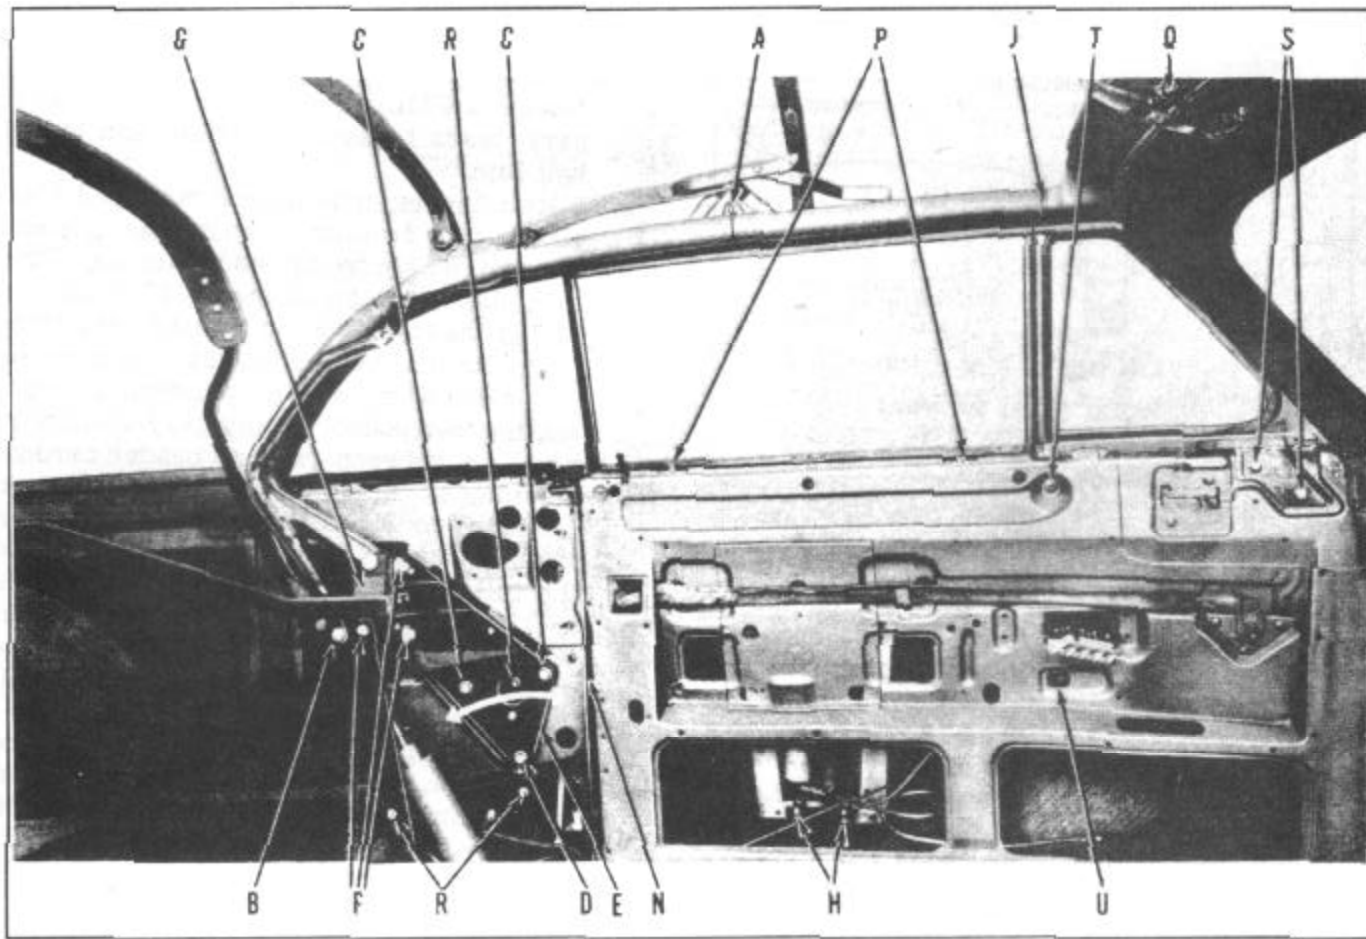

FIGURE 174
3. Back out the side rail adjusting screw at (A), Figures 174 and 175. This screw must not be making contact inside of the rail hinge when starting a major top adjustment.
4. Loosen anchor bolt attaching top balance link to top pivot bracket at (B), Figure 174.
5. Loosen the hex head bolts attaching top pivot bracket support to rear pillar to wheelhouse brace at (C) and (D). Bolt holes at (C) are slotted. Bolt (D) is a pivot bolt for movement of bracket (E) forward or backward in an arc to lengthen or shorten the top assembly in relation to the windshield header. Make
9. The top side rail front corner bracket (J), Figures 174 and 177, is preadjusted at the factory with three bolts set midway in the adjustment slots.
10. The top hold-down clamps (Q), Figures 174 and 178, are attached with a serrated mounting plate (D) to allow suitable spring tension adjustment and top front header sealing.
1. Loosen screws (R), Figure 174, to obtain the proper forward adjustment.
1. Remove two screws (S), Figure 174, attaching the wing cradle to inner panel.
2. Loosen screw (T) attaching center glass channel to upper edge of inner panel and remove screw (U) attaching lower end of center channel to inner panel.
3. To tilt vent wing inward insert a washer or washers between wing cradle and inner panel at the upper wing cradle attachment screw (S). Install and tighten both screws, (To tilt outward, insert washers at lower attaching screws (S).)
4. Tilting the glass inward moves the bottom of the center glass channel away from the inner panel. Washers should be inserted between the lower end of the channel (U) and the inner panel to hold channel in position. Retighten screws (T) and (U).